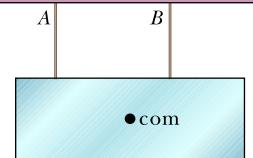

Figure 12.9 Question 10.
**10** Figure 12.9 shows a horizontal block that is suspended by two wires,  $A$  and  $B$ , which are identical except for their original lengths. The center of mass of the block is closer to wire  $B$  than to wire  $A$ . (a) Measuring torques about the block's center of mass, state whether the magnitude of the torque due to wire  $A$  is greater than, less than, or equal to the magnitude of the torque due to wire  $B$ . (b) Which wire exerts more force on the block? (c) If the wires are now equal in length, which one was originally shorter (before the block was suspended)?